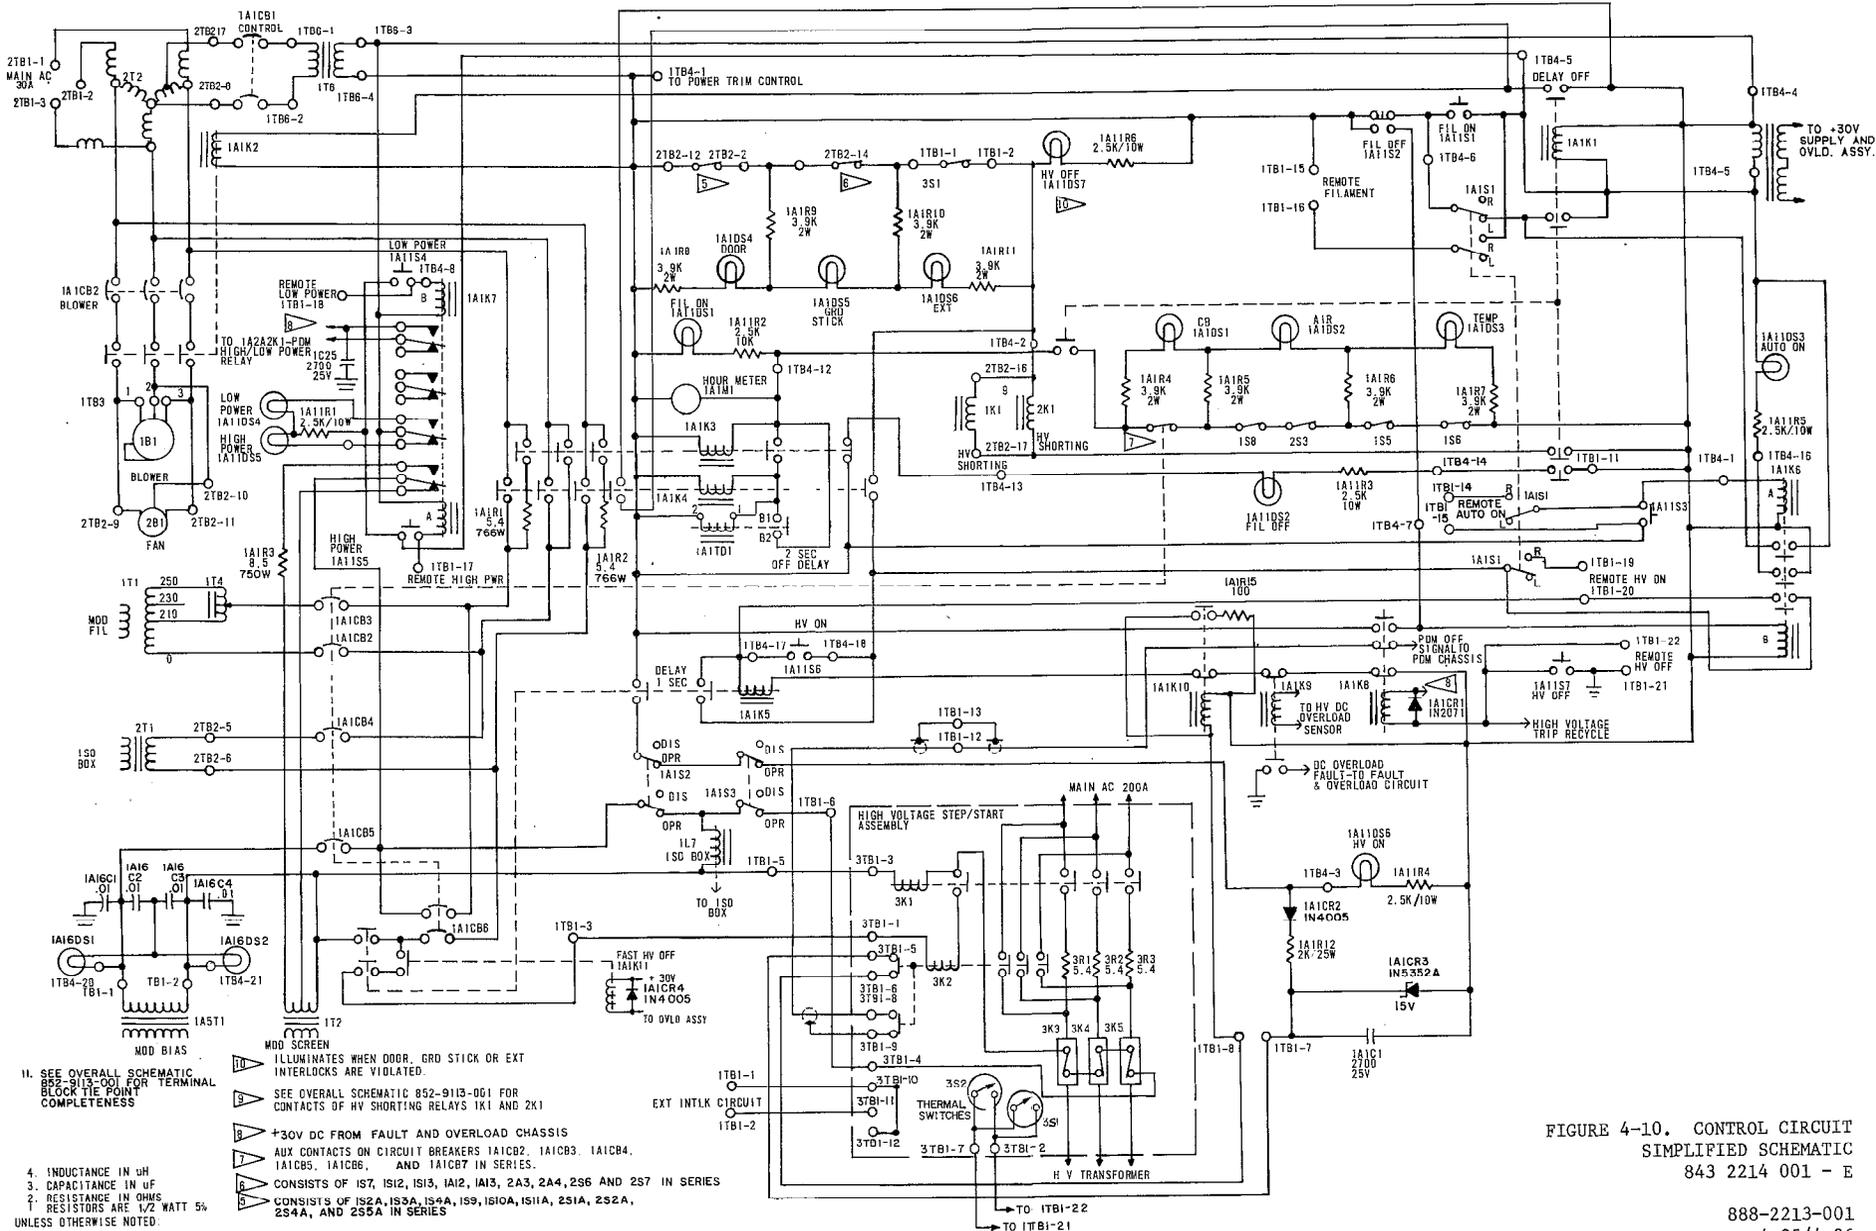

FIGURE 4-10. CONTROL CIRCUIT SIMPLIFIED SCHEMATIC 843 2214 001 - E
4-98. The control system consists of Main AC Control Chassis 1A1, Fault and Overload Assembly 1A3, with its associated unit prefixed 3, overload and arc sensors, and High-Voltage Power Supply Step/Start. These circuits control the application and removal of primary power to: (1) the blower and fan, (2) the High-Voltage Power Supply, and (3) to a number of transformers for generation of filament, bias, screen, and plate potentials. Power application is accomplished in an automatic sequence that does not require operation, except for depressing two switches. Power removal is also performed in an automatic sequence that may be initiated by the detection of faults, overloads, or by operator control. Time-delay relays used in the various control circuits have adjustable delays which are set by a thumbwheel on the front of each relay. Refer to figures 4-10 and 9-1 for the following discussion.